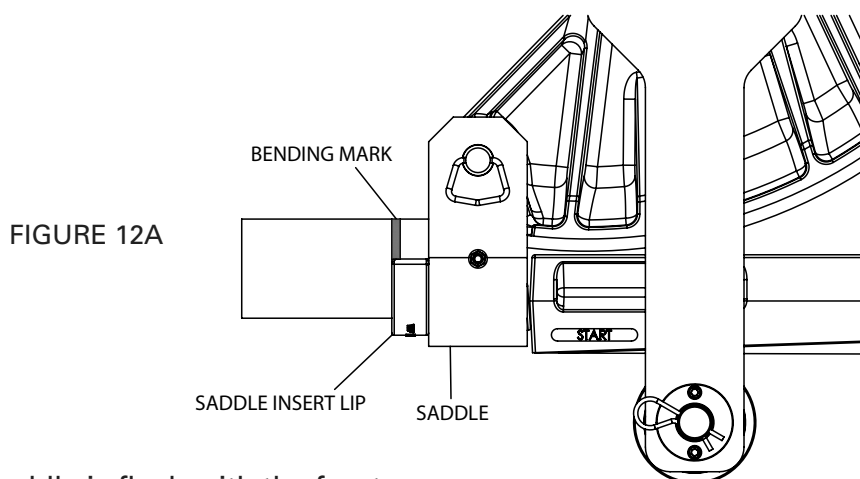

FIGURE 12A
NOTE: The saddle insert lip that extends out should face away from the follow bar (See figure 12A).
14. Make sure the saddle is flush with the front of the follow bar. The bending mark on the conduit should be aligned with the front edge of the saddle insert lip (see figure 12A). Rotate the pump valve lever clockwise to the closed position and activate the hydraulic pump until the shoe contacts the conduit and the saddle and follow bar are snug.